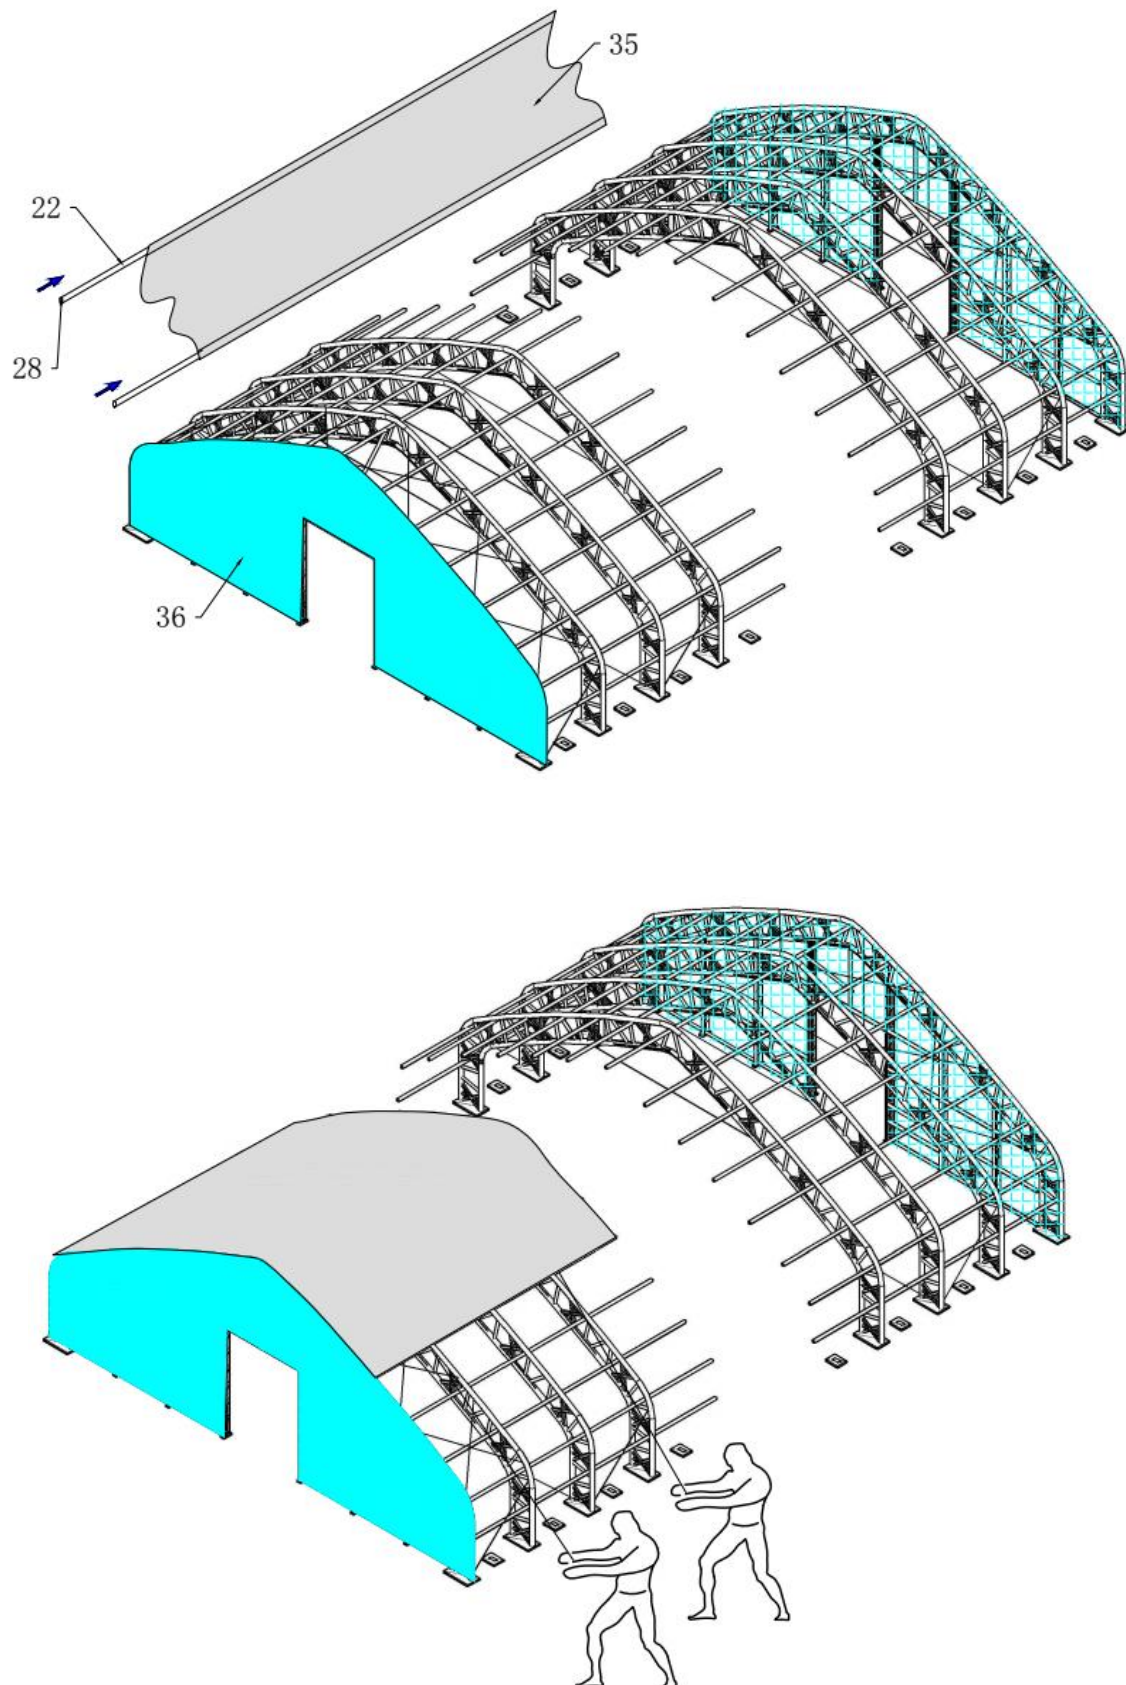

Figure 7
1. As Figure 7 shows, when two pieces of Roof cover is over top of Frame assembly (see Figure 7), insert the PVC tube (Part No.32) into pockets along both sides of Roof cover, find the Small ratchet (Part NO.34) to connect on PVC tube in Roof cover by parts. (see Figure 8).